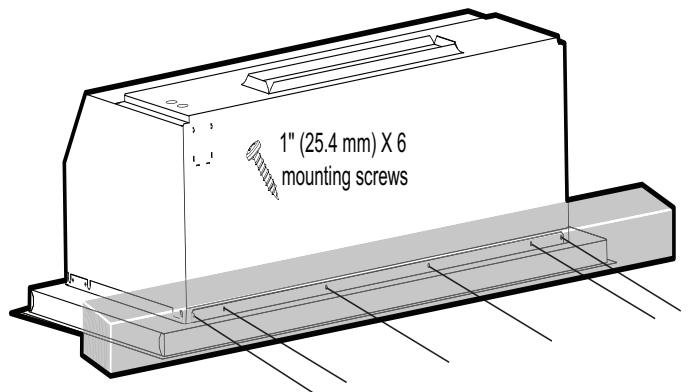

Figure 36: Rear Screws
- Secure to the rear of the frame using six (6) 1" (25.4 mm) mounting screws provided (Figure 36).